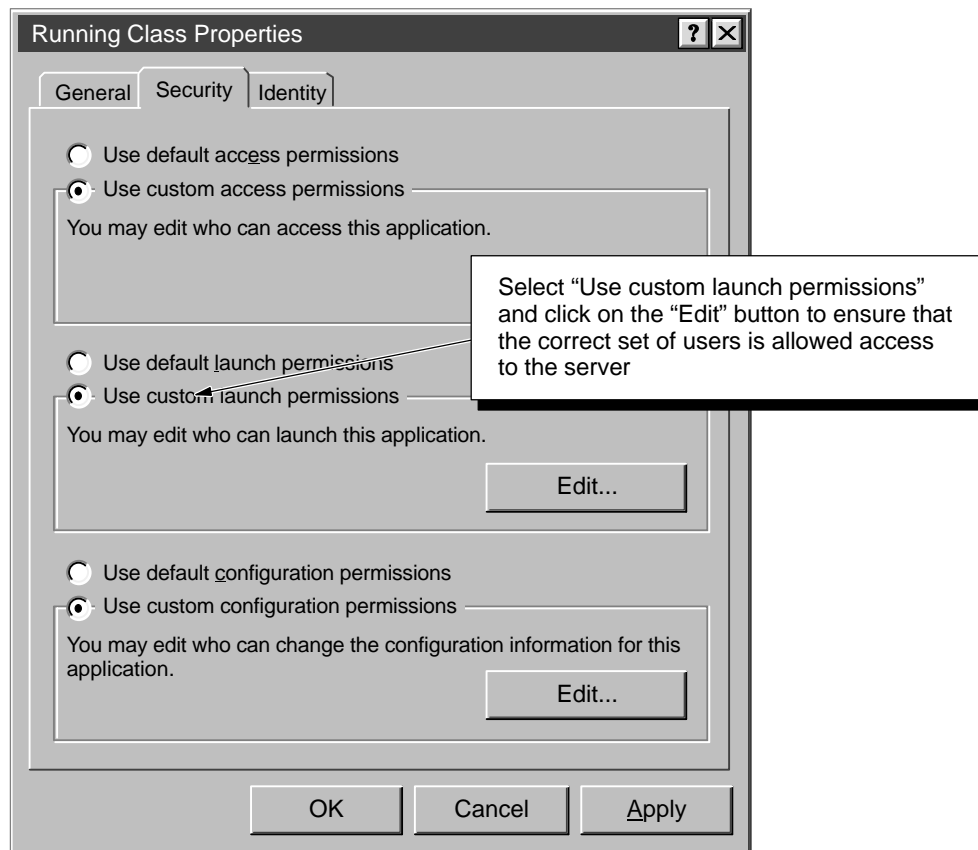

Figure E-10 Configuring the DCOM Access Permissions for the Server
2. Select “Use custom access permissions” and click on the “Edit” button. See Figure E-10.